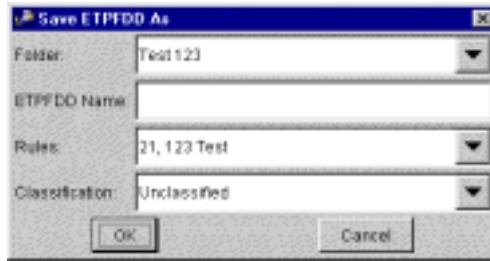

Figure 5.5 Save ETPFDD As Window
- Click New. The large Save ETPFDD As window closes and the small Save ETPFDD As window opens (Figure 5.5).